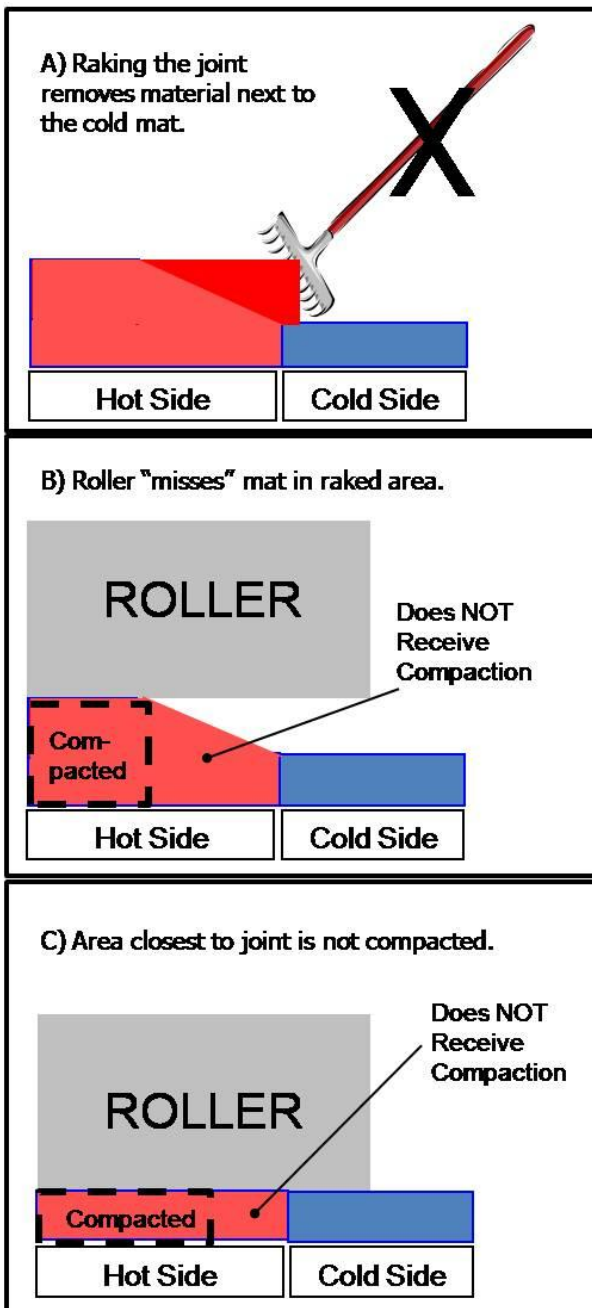

Figure 1. Pushing too much material away from the joint will result in low density at the joint as shown in Box C.
**A** – Raking can remove material away from the pavement edge creating a trench area that does not get adequately compacted. As shown in Figure 1 on the next page.
- An alternative compaction process is to have the 1st pass of the vibratory roller on the hot mat overlapping 4 to 6" onto the cold mat. A concern is that if an insufficient depth of HMAC is placed next to the cold mat (starving the joint), the roller will bridge over and not compact the hot material completely as shown in Figure 1.